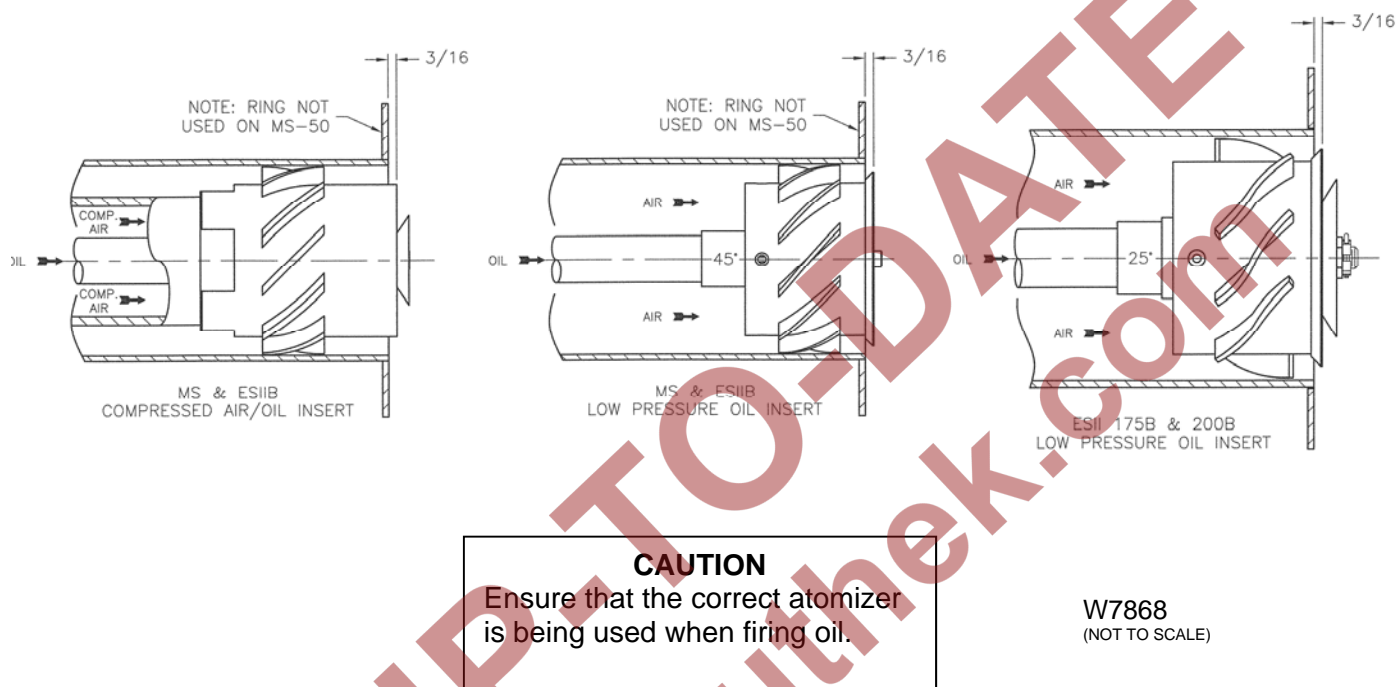

Figure 9. Oil Nozzle Position
The position of the fuel oil atomizer affects its ability to atomize the oil. The compressed air atomizer or low pressure atomizer should be positioned as shown in Figure 9.
3. Note the present orientation of the oil nozzle in the burner. Determine if the oil nozzle must be retracted into or extended out of the primary air tube (see Figure 9).
3. Note the present orientation of the air/oil nozzle in the burner. Determine if the air/oil nozzle must be retracted into or extended out of the primary air tube (see Figure 9).
P. LIQUID PROPANE (LP) FUEL PIPING SYSTEM